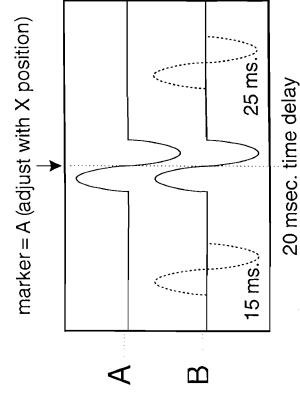
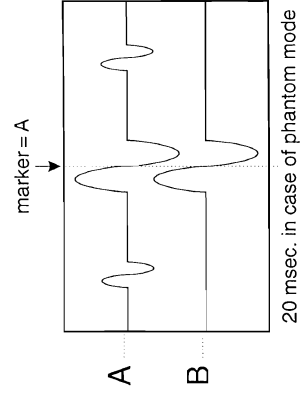

Fig. 2
Fig. 3
- Adjust trigger level and the X position to set pulse A in the middle of the scope. . see fig.2 (if L or R used in phantom mode choose the largest (amplitude) pulse. see fig 3